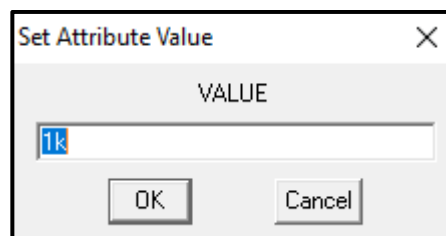

Figure.8
- To change a part value e.g. resistance, voltage source ... etc. double click on its **value** and the window in figure.8 will show up, type the value you want inside the box then click ok.